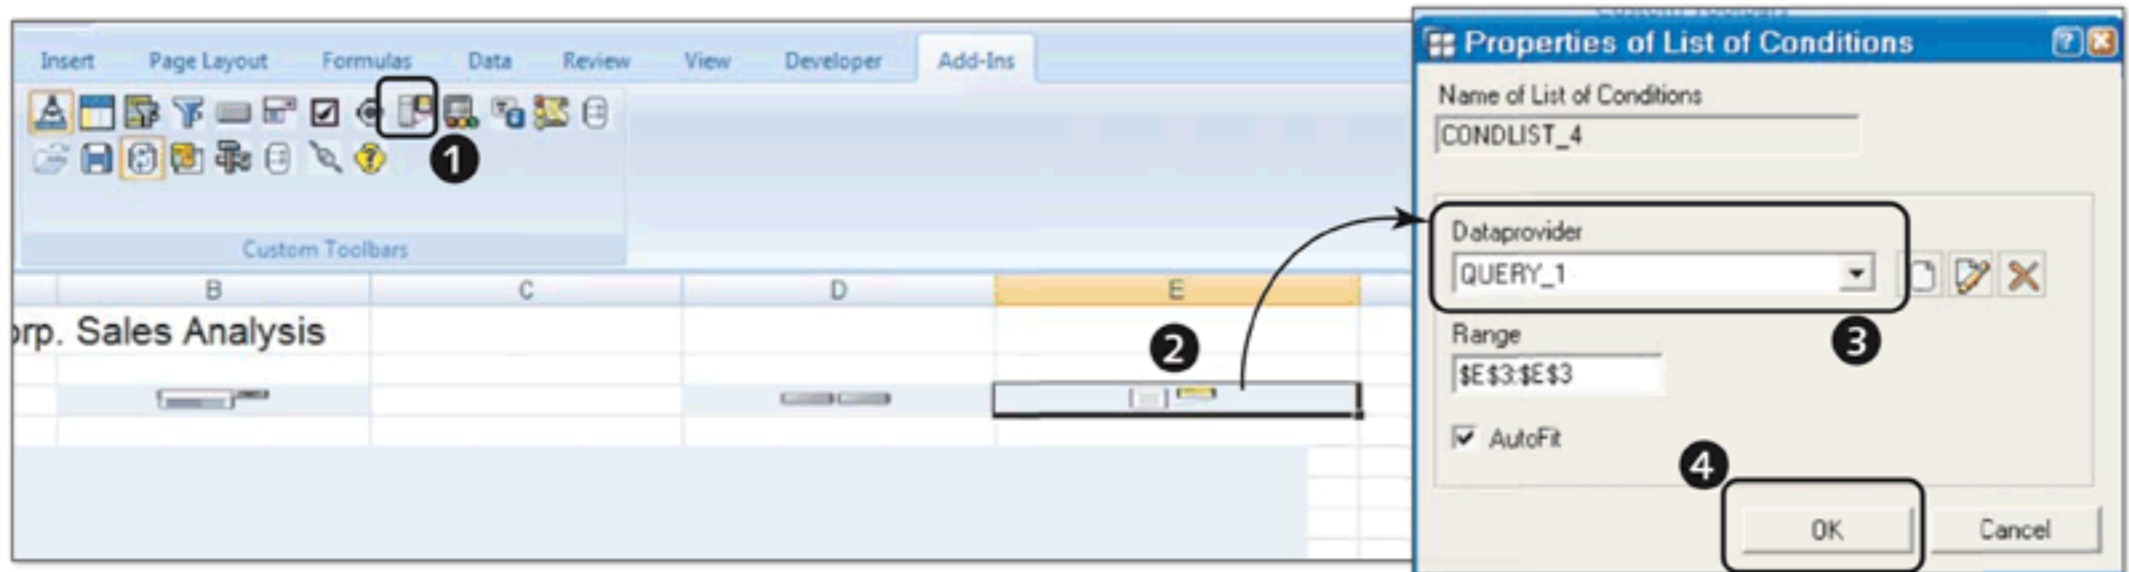

Figure 10.36 Insert List of Conditions
Insert the *list of conditions* design item using the button shown in 1 of Figure 10.36. Call the properties for the inserted design item by double-clicking on the inserted item (2), and assign the data provider to the item (3). Finally, click on OK to return to the workbook (4).